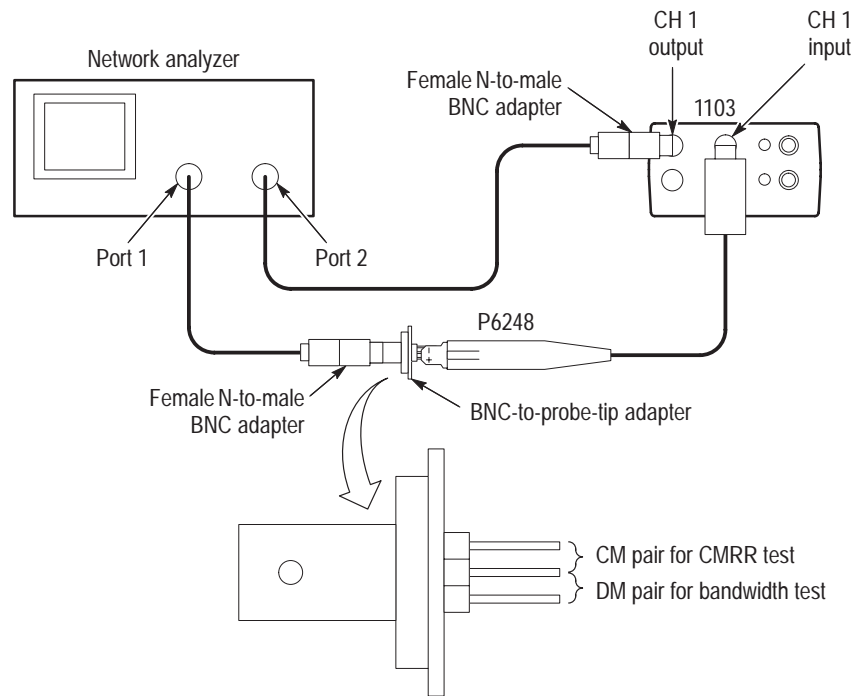

Figure 8: Setup for CMRR test
3. The setup should now appear as shown in Figure 8.